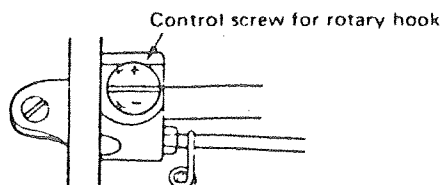

Fig. 13
- (1) Oil supply to the rotary hook can be controlled by adjustment of the control valve at the underside of the machine bed as shown in Fig. 13.